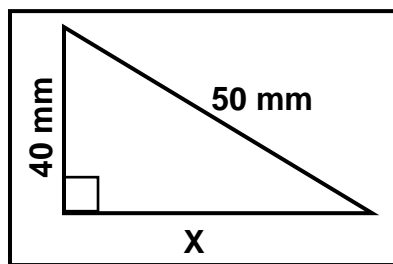

FIGURE 4.13
- (1)
- 4.13 What is the value of **X** in FIGURE 4.13 below?